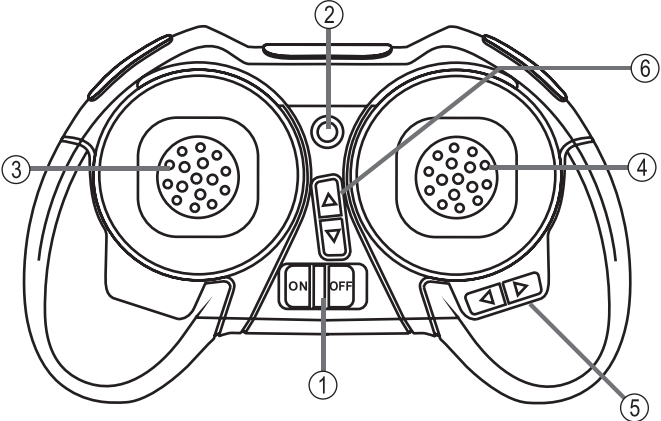

Figure 3
The battery condition is continually inspected while the transmitter is in operation. If the voltage level of the batteries drops below a certain value, the transmitter will signal this with an intermittent warning sound and permanent flashing of the LED at the transmitter (figure 3, item 2). In this case, stop flying at once and replace the batteries of the transmitter.
Push the throttle lever (figure 3, item 3) forward to increase the motor speed and lift up the quadcopter. Pulling the throttle lever back causes the quadcopter to drop. If you leave the throttle stick in the middle area, the quadcopter will roughly maintain its height.
- Put the control stick for the motor control to the bottom position for this (1).
- Switch on the quadcopter (2). The front LEDs in the model start to flash quickly.
- Switch off the remote control transmitter by pushing the on/off switch (3). The transmitter confirms this with a double signal sound. The control LED at the transmitter (fig. 3, item 2) will flash.
- Push the left control lever (4) forward until a control sound sounds.
- Pull the left control lever (5) backwards until a control sound sounds. The control LED at the transmitter and the LEDs at the quadcopter are now permanently lit.